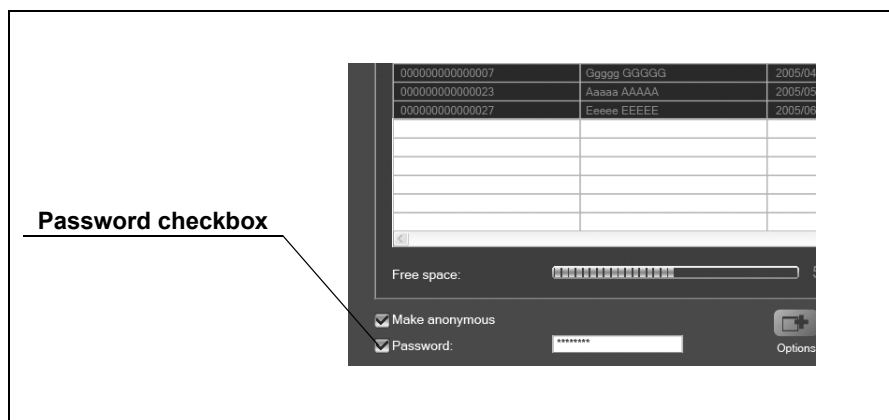

Figure 6.100
7. Check the “Password” checkbox to set a password (see Figure 6.100).